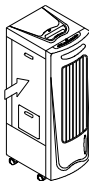

Fig8
2. After filling with water, the Evaporative Cooler should not be tilted. If you need to move the unit, push gently and slowly on the side to avoid water spilling. (Fig. 8)